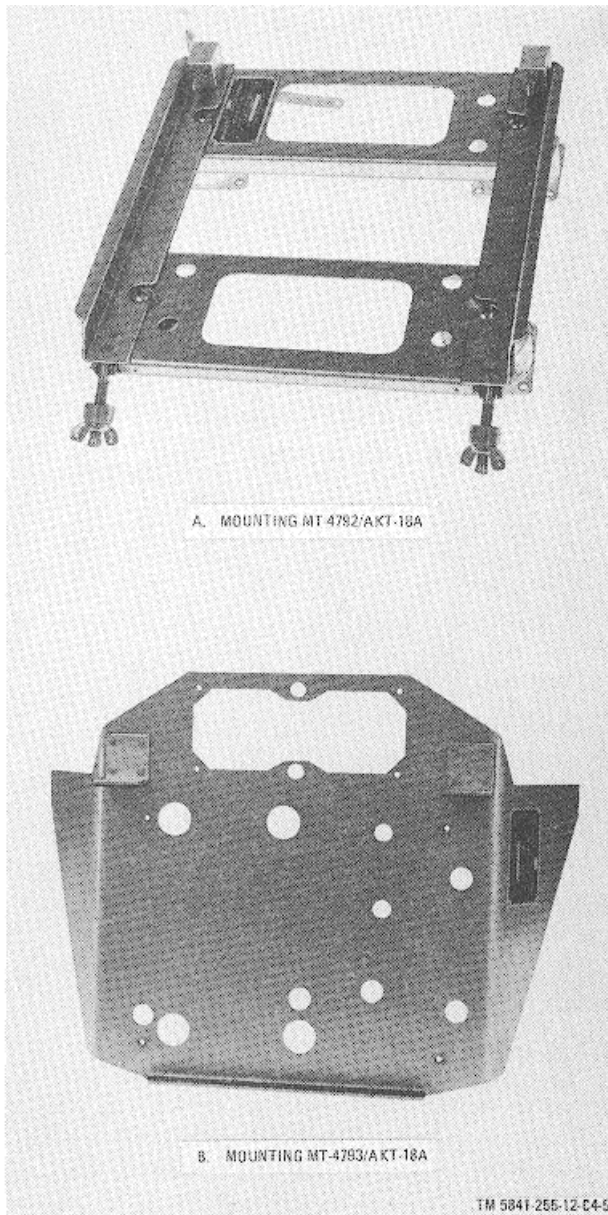

Figure E-5. Mounting Bases Electrical Equipment MT-4792/AKT-18A AND MT-4793/AKT-18A.
a. Mounting MT-4792/AKT-18A (A, fig. E-5).
- b. *Mounting MT-4793/AKT-18A (B, fig. E-5).* In converting the AN/AKT-18 to the AN/AKT-18A configuration, Interconnecting Box J-2794/ APS94D is removed from the rear compartment in the aircraft fuselage and hard mounted with Mounting MT-4793/AKT-18A to the side of Receiver-Transmitter, Radio RT-899/APS-94D in the center compartment. Both of these units are mounted to existing isolators on the aircraft rack.